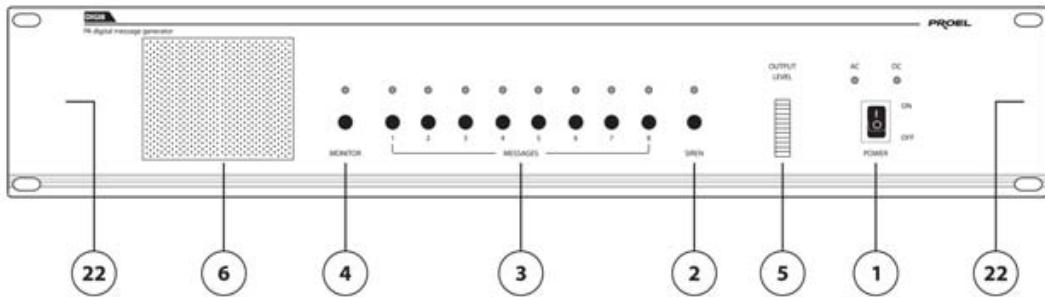
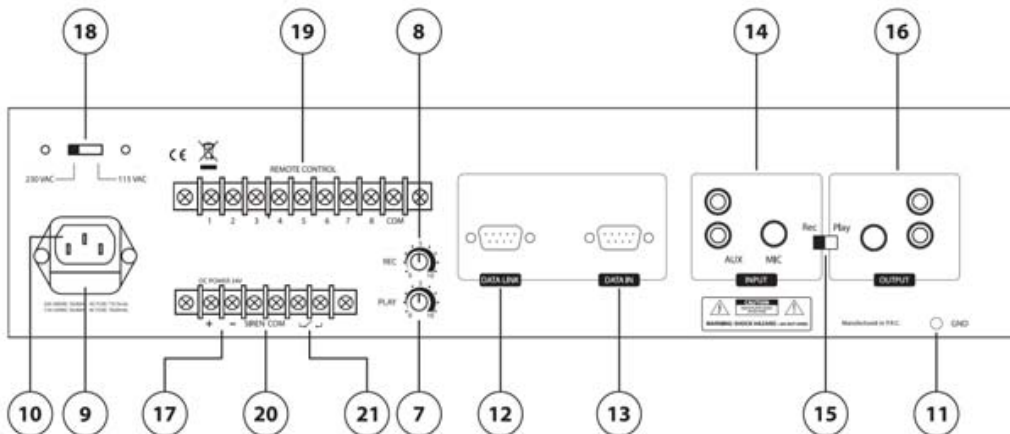

fig. 1
fig. 2
- To power the unit, connect in position 18 of **fig.2**, the power cord included in the unit package
- Do not use contemporaneously the main power supply (230 Vac) and DC power supply (24 V dc) to ensure a good unit operating . To access to DC POWER SUPPLY 24 V dc (**fig.2**), unscrew to remove the unit protection cover . To ensure the proper power supply and to avoid the unit overheat, use cables with section at least of 2,5 mm2 .
Position the rear selector (**fig.2** ref.15) on “**PLAY**”, activate any key corresponding to Message1 - Message8 or SIREN (**fig.1** ref.3/2), the recorded message is played.
Position the rear selector (**fig.2** ref.15) on “**REC**”, press any key corresponding to Message1 - Message8 or SIREN (**fig.1** ref.3/2), the corresponding and recorded message is broadcasted .